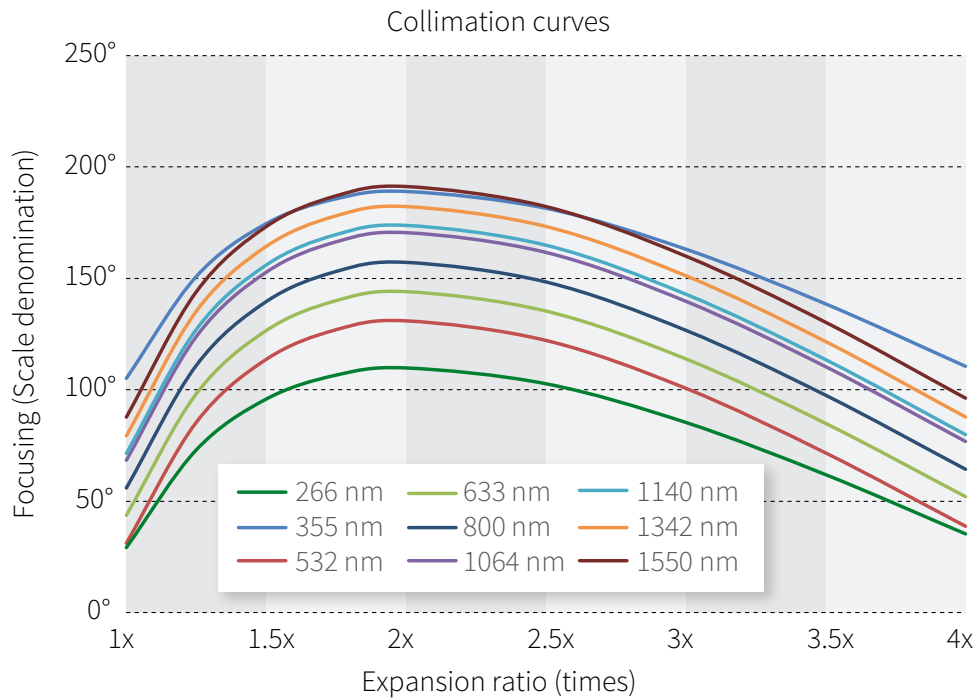

Figure 20. Collimation curves.
3. Focusing cylinder should be rotated to match the angle on focusing scale as per graph below. Please note, that collimation curves are different for different wavelengths (fig. 20).